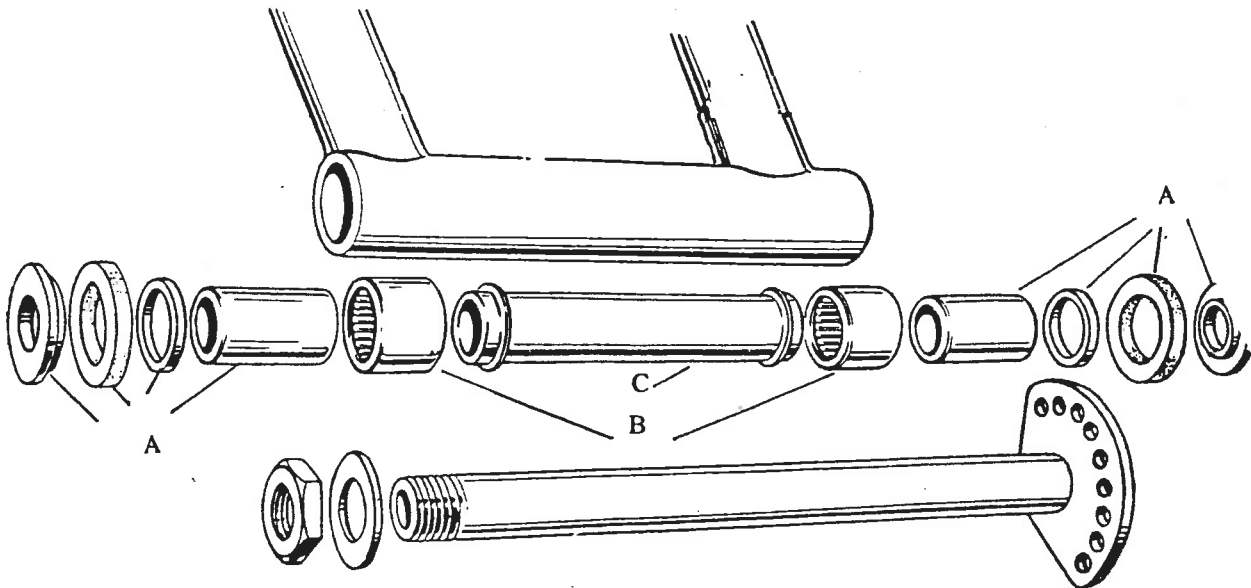

Fig. 59 *Swinging arm bearings*
- 1 First remove the thrust washers, dust seals, journals and seals (A) Fig. 59.
- 2 Drift out the needle rollers (B) using a long circular bar with a flat end. (Destruction of the needle roller is almost unavoidable).
- 3 Take out spacer (C) and clean bearing housing.